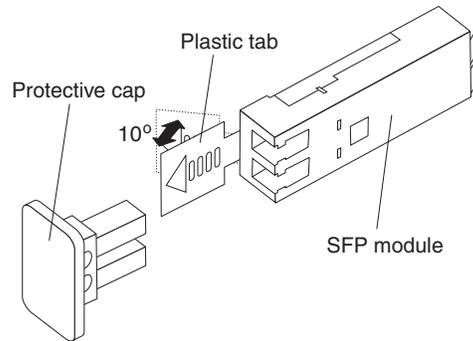

Figure 28. Unlocking the SFP module latch
2. Unlock the SFP module latch by pulling the plastic tab outward 10°, as shown in Figure 28 on page 33.